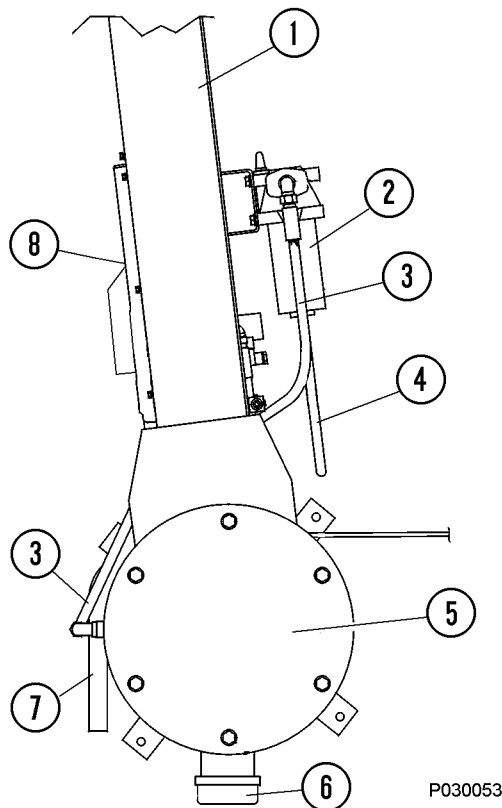

FIGURE 42-8. FILTER AND RESERVOIR
Filter assembly (2, Figure 42-8) is mounted on right upright (1) and filters the grease when the grease supply is refilled through the quick fill fittings.